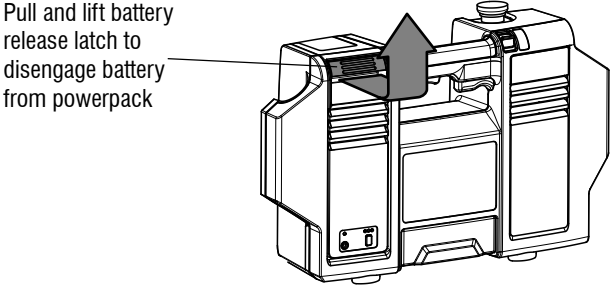

Figure 3-14. Removing the battery from the powerpack
- 1. Remove battery from powerpack (Figure 3-14.).